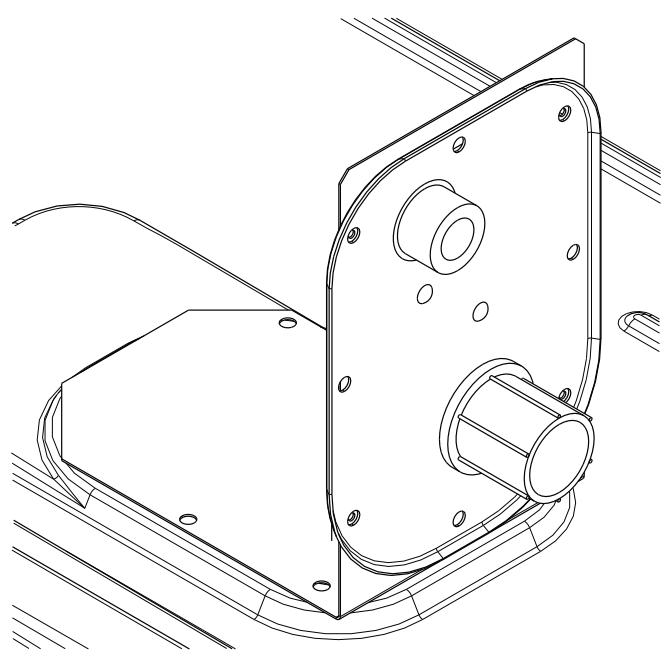
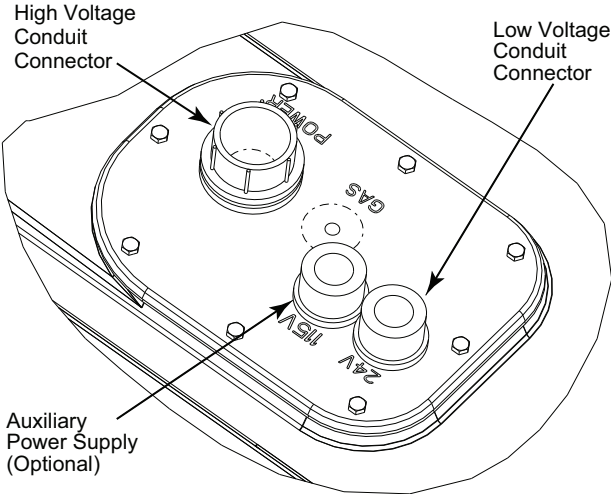

Fig. 37 — Thru-the-Base Fitting Assembly (Shown in Shipping Position)
Fig. 38 — Thru-Base Connection Fittings
3. Place the gasket over the embossed area in the basepan, aligning the holes in the gasket to the holes in the basepan. See Fig. 38.
This service connection kit consists of a 1/2 in. electrical bulkhead connector and a 3/4 in. electrical bulkhead connector, connected to an “L” bracket covering the embossed (raised) section of the unit basepan in the condenser section (see Fig. 37 for shipping position). The 3/4 in. bulkhead connector enables the low-voltage control wires to pass through the basepan. The 1/2 in. bulkhead connector allows the high-voltage power wires to pass through the basepan. See Fig. 38.